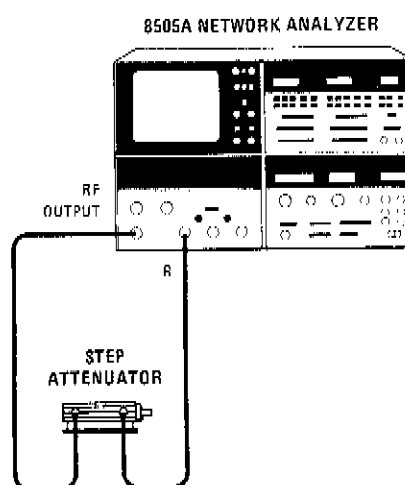

Figure A4-11. Dynamic Range Test Setup
- b. Connect equipment as shown in Figure A4-11.